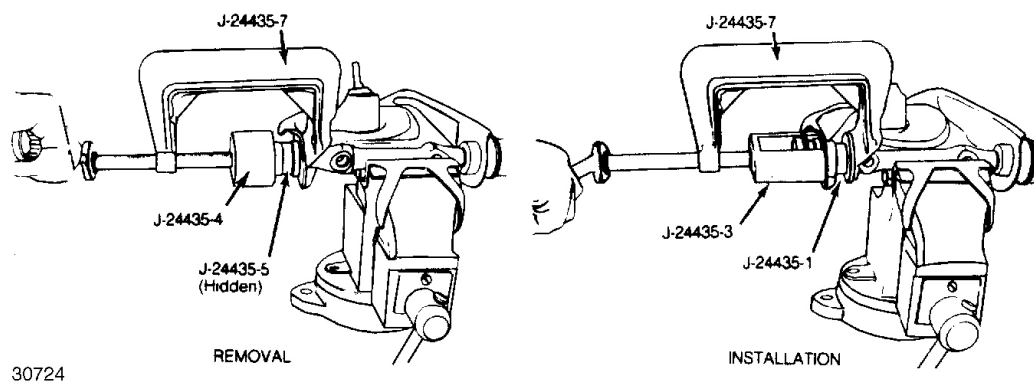

Fig. 6: Upper Control Arm Rubber Bushing Replacement Tighten hex head on clamp to draw out old bushing, then reverse procedure to install new bushing.
1. Mount control arm assembly in a vise. Install Front Control Arm Bushing Service Set (J-24435 which must include "C" Clamp J-24435-7 , Adapter J-24435-1 , Receiver J-24435-3 , Installer J-24435-4 and Adapter J-24435-5) onto control arm bushing using "C" clamp and proper adapters. See **Fig. 6** .
3. Lubricate new bushing with rubber grease and position into control arm bore. Install "C" clamp and proper adapters over bushing, then tighten clamp to press bushing into position. See **Fig. 6** .